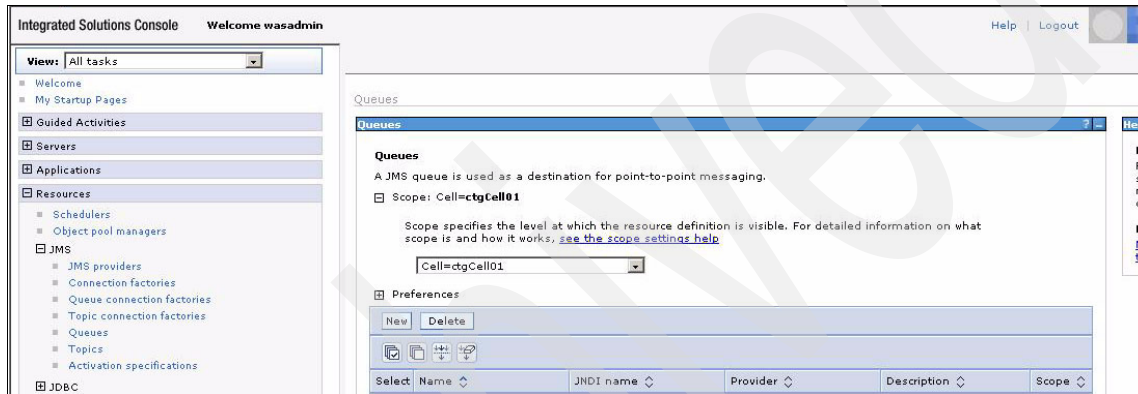

Figure A-40 Queues
2. From the Scope drop-down list, select **Cell=ctgCell01** and click **New** (see Figure A-40).